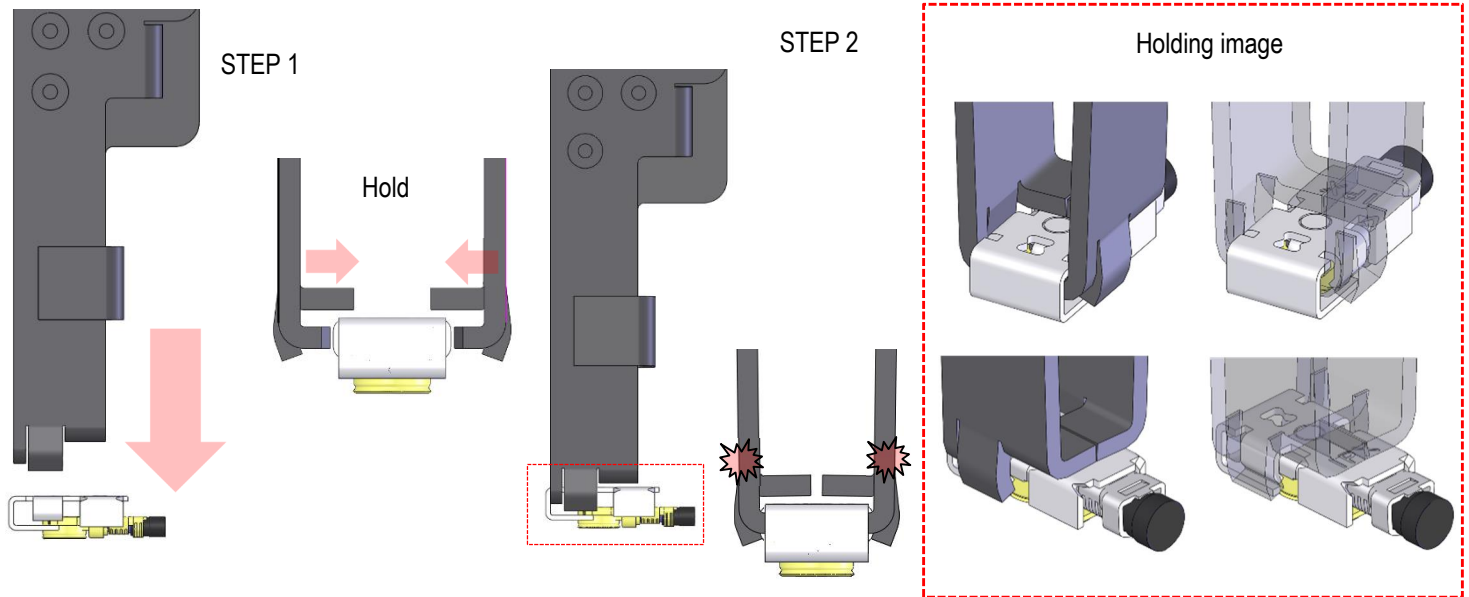

Figure 14
- ① Set the jig from above the connector as shown in Figure 14 and hold the MHF 4L LK Harness.